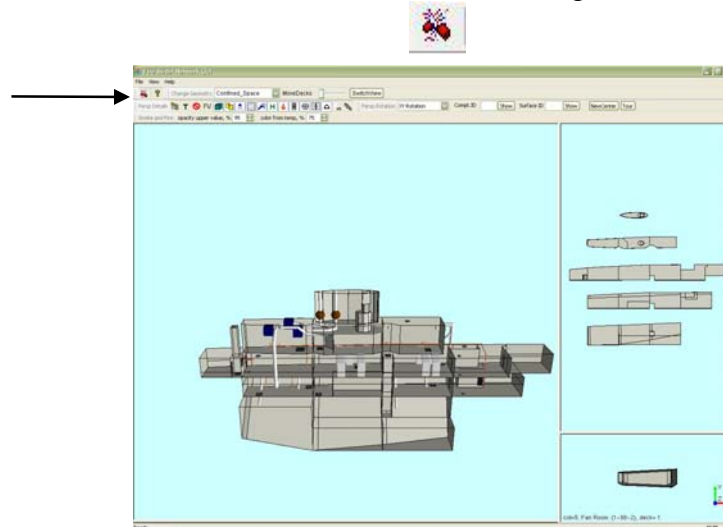

Figure 3.2 Fire Simulation Button Location
Step 2: Click the Fire Simulation button as shown in Figure 3.2.